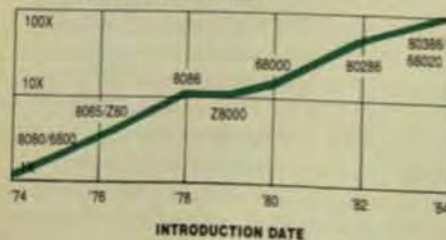

Fig 2 The 32-bit machines expected by 1984 will provide 100 times the performance of the 8080/6800 class of microprocessor that were released a decade earlier.
**Fig 2** GKS performs two sets of transformations. First, it transforms world coordinates (the coordinate space of the application) into a normalized device-coordinate space by setting a world window that functions as an abstract viewing surface of an intermediary space between applications and devices. NDC space is then transformed into the workstation's device-coordinate space. Each workstation may, in turn, have its own distinct view of the application by setting a workstation window. Finally, each workstation can set a viewport that can be used to scale and translate the original picture.
ranges associated with future processors is illustrated in Fig 2. Thus, over the same 10-year period, microprocessor performance has increased 100-fold from the 8080 to such 32-bit machines as the Intel 386 and the Motorola 68020, which are to be announced soon.